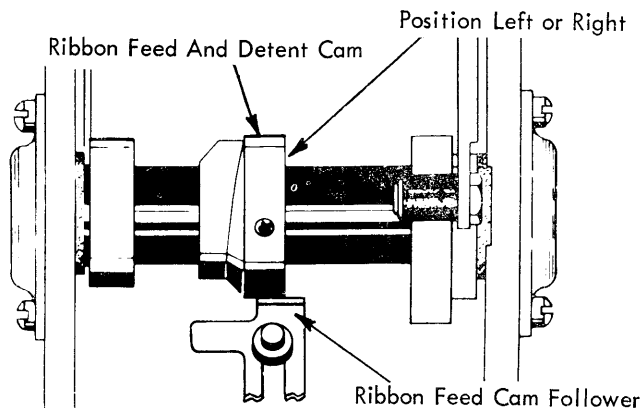
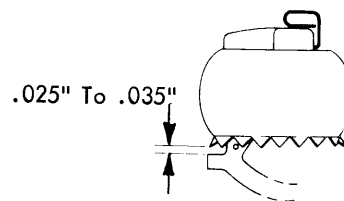

FIGURE 42. Detent Cam Adjustment
FIGURE 43. Skirt Clearance
- a. With the cycle shaft at rest and the typehead manually held in a two tilt position, adjust the ribbon feed and detent cam left or right on the print sleeve (Figure 42) so that the rotate detent will clear the detent teeth on the typehead skirt by .025" to .035" (Fig. 43).